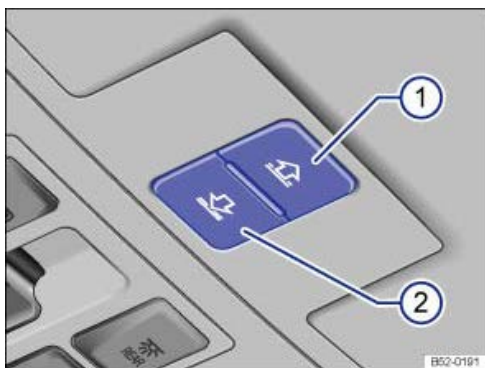

Fig. 119 In the headliner: button for controlling the sun blind.
Buttons → Fig. 119 ① ② have 2 positions. In the first position the sun blind can be completely or partially opened or closed.
- Within approximately 5 seconds of the roll-back function being triggered, press and hold button → Fig. 119 ② until the sun blind has closed completely.